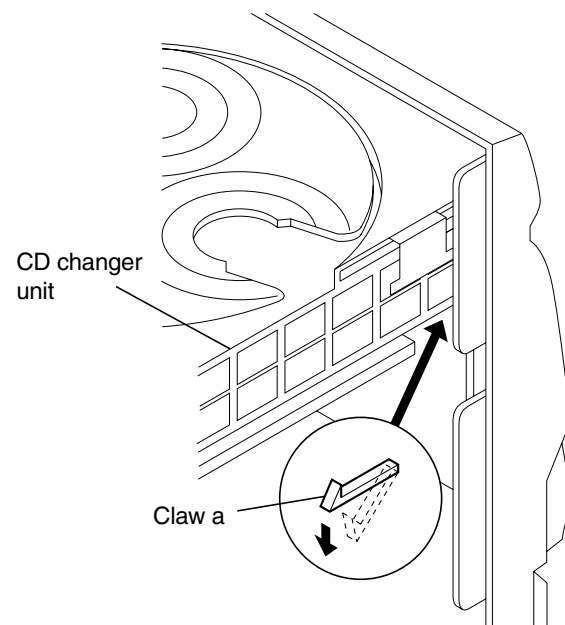

Fig.9
- Push down and disengage the two claws "a" holding the CD changer unit at the bottom of its front panel and then remove the CD changer unit (Fig. 9).